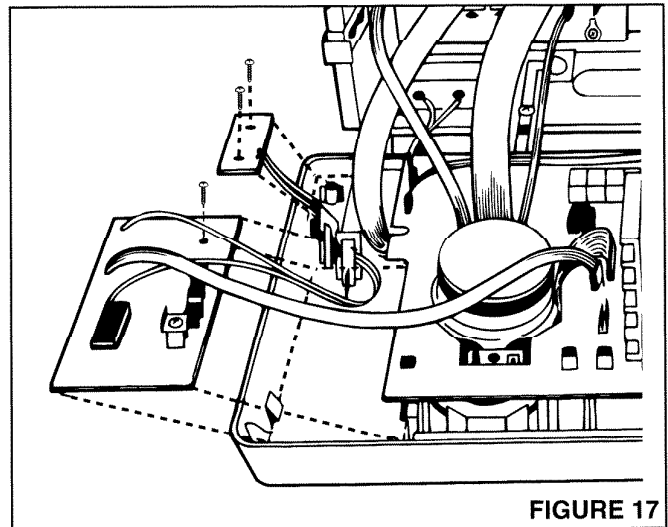

FIGURE 17
3. Refer to Figure 17. Locate the chime module mounting bracket.